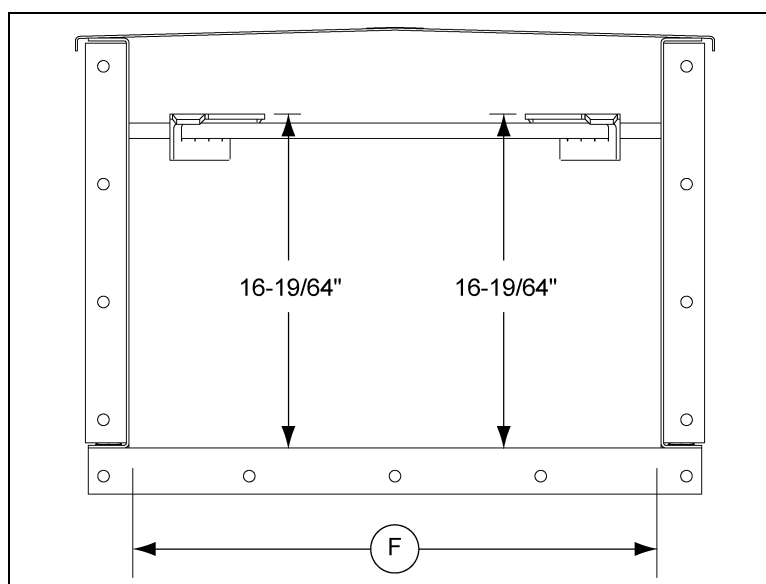

Figure 6F Typical Intermediate Trough Section Assembly with Slide Rail Returns
1. Lay the bottom plate weldment (A) onto blocking material.
2. Attach the side weldments (C) to the bottom plate weldment (A) with both 3/8 inch and 5/8 inch hex bolts and flange nuts.
3. Install side liners (B) with 3/8 inch countersunk bolts and flange nuts, making sure the end edges of the liners are flush with the flanges of side weldments (C). (**NOTE: Side liners are optional.**)
4. Install the rail return weldment (E) with 5/16 inch flange bolts.
5. Once all the components are in place, make adjustments to ensure that the end of each side liner (B) is flush with the flanges of the side weldments (C). Also, ensure that the flanges of the side weldments are flush with the flanges of the bottom plate weldment (A).
6. Check the spacing between the side weldments at the top and bottom of the intermediate and measure to the nominal conveyor width ensuring a square assembly. (See Note and Figure 6F on Page 17.)
NOTE: 20 Inch tall trough sections are manufactured for inside width dimensions (F) of 14, 16, 20, 26 or 32 inches. (See Figure 6F.) These dimensions do not include liners. It is important that the inside dimensions of the box are equidistant from the bottom plate to the slide rail shafts.